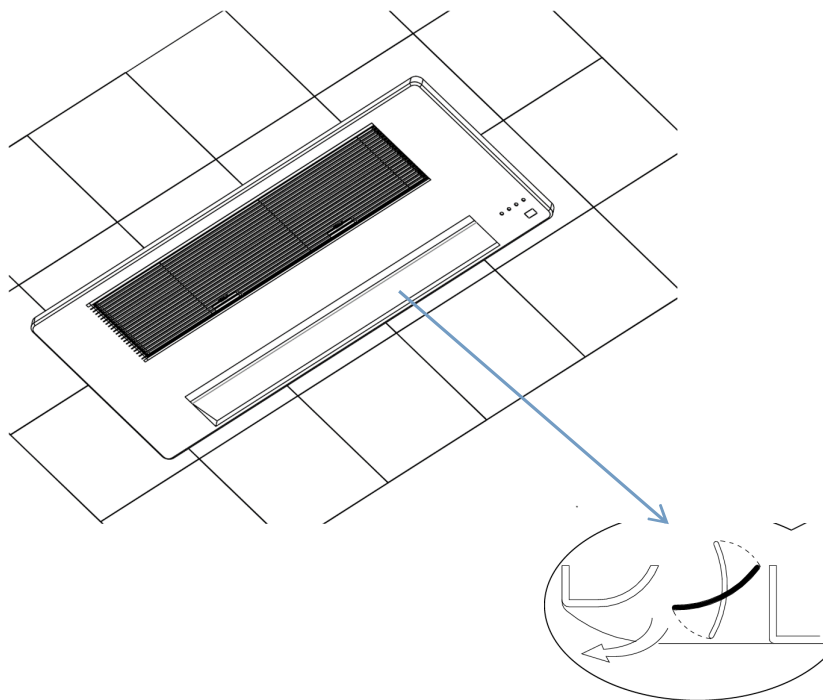

Figure B.5.2
- It is recommended to locate the unit near one side of room to ensure optimum air distribution. (Figure B.5.2)